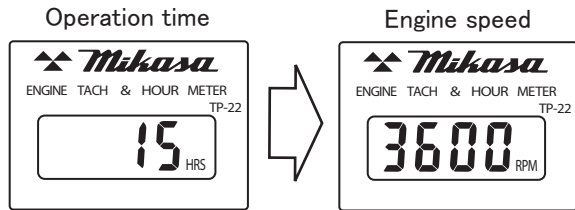

Fig.22
9. When the engine is stopped, the tacho & hour meter is always shown "Operation time". During operation, it is shown "Engine speed". (Fig.22)